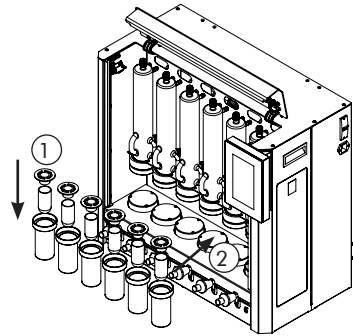

Fig. 18.1
1. Insert the thimble into the holder by twisting it to prevent breakage. Place the thimble holder inside the beaker as shown in the Fig. 18.1.